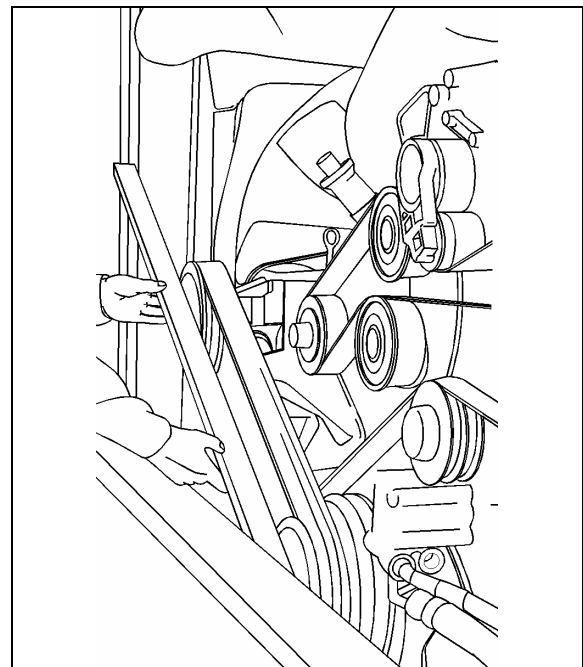

FIGURE 16: PULLEY ALIGNMENT 05064
3. Using a straight edge, align the 3"V" pulley on gearbox central shaft pulley with engine pulley, while taking pulleys outer edge thickness under consideration i.e. 3"V" pulley's outer edge is thicker than that of engine pulley's (Fig. 16).
In order for tensioning system to work properly, adjust upper tensioning bracket to provide a 1/4" (7 mm) gap between stopper and bracket. Otherwise, release tension on system and readjust distance using bolts securing upper tensioning bracket (Fig. 16).